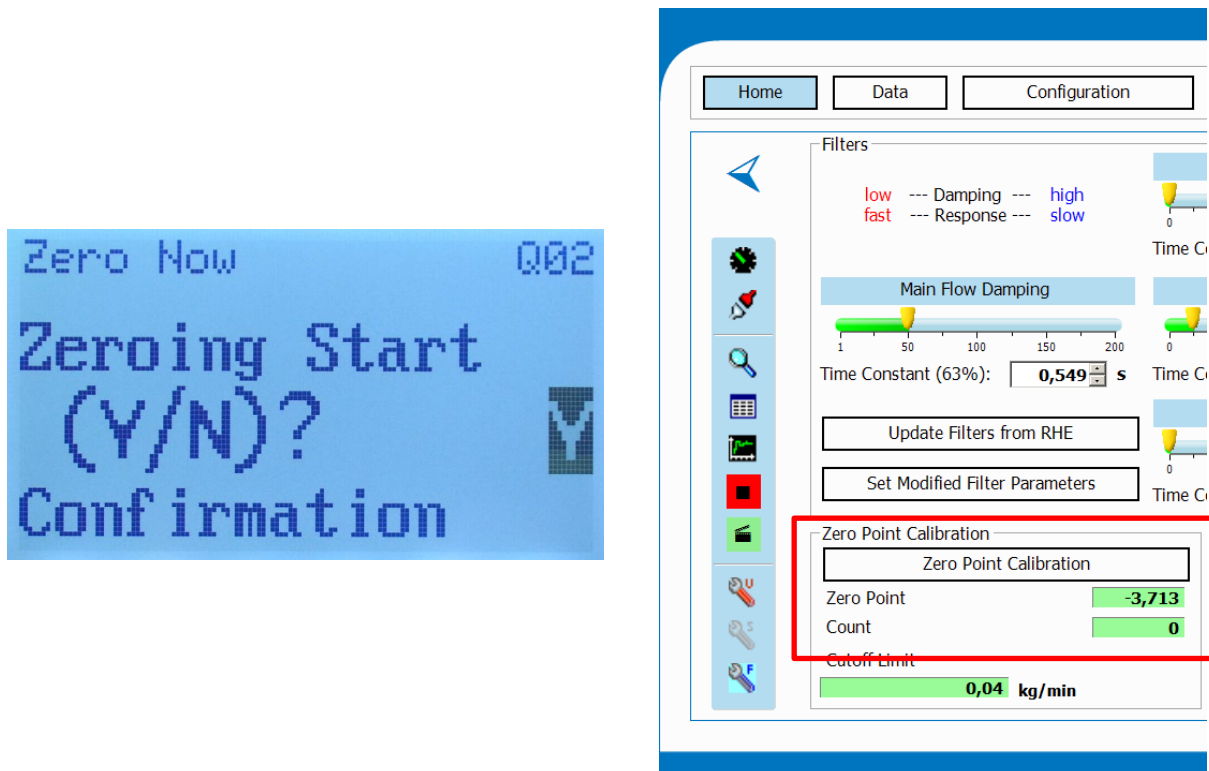

Figure 1: Zero Point Calibration Procedure started manually via HMI or using RHEComPro Dashboard
- 1) Via the “Zero Now” option in the “Quick Setup” menu of the HMI. This requires the input of the user password (when not done beforehand) and a confirmation. Please wait for the displayed countdown to finish before beginning other activities. See section 3.6.2 for further details and the left-hand image in Figure 1.
- 2) Through the RHEComPro software (as described in section 2.1) via the USB port on the front cover of the transmitter. The Filter Dashboard window of the RHEComPro software features a virtual button labeled “Zero Sensor” which starts the Zeroing Procedure when clicked. The Zero sensor button on the Filter Dashboard is shown in the right-hand image of Figure 1.